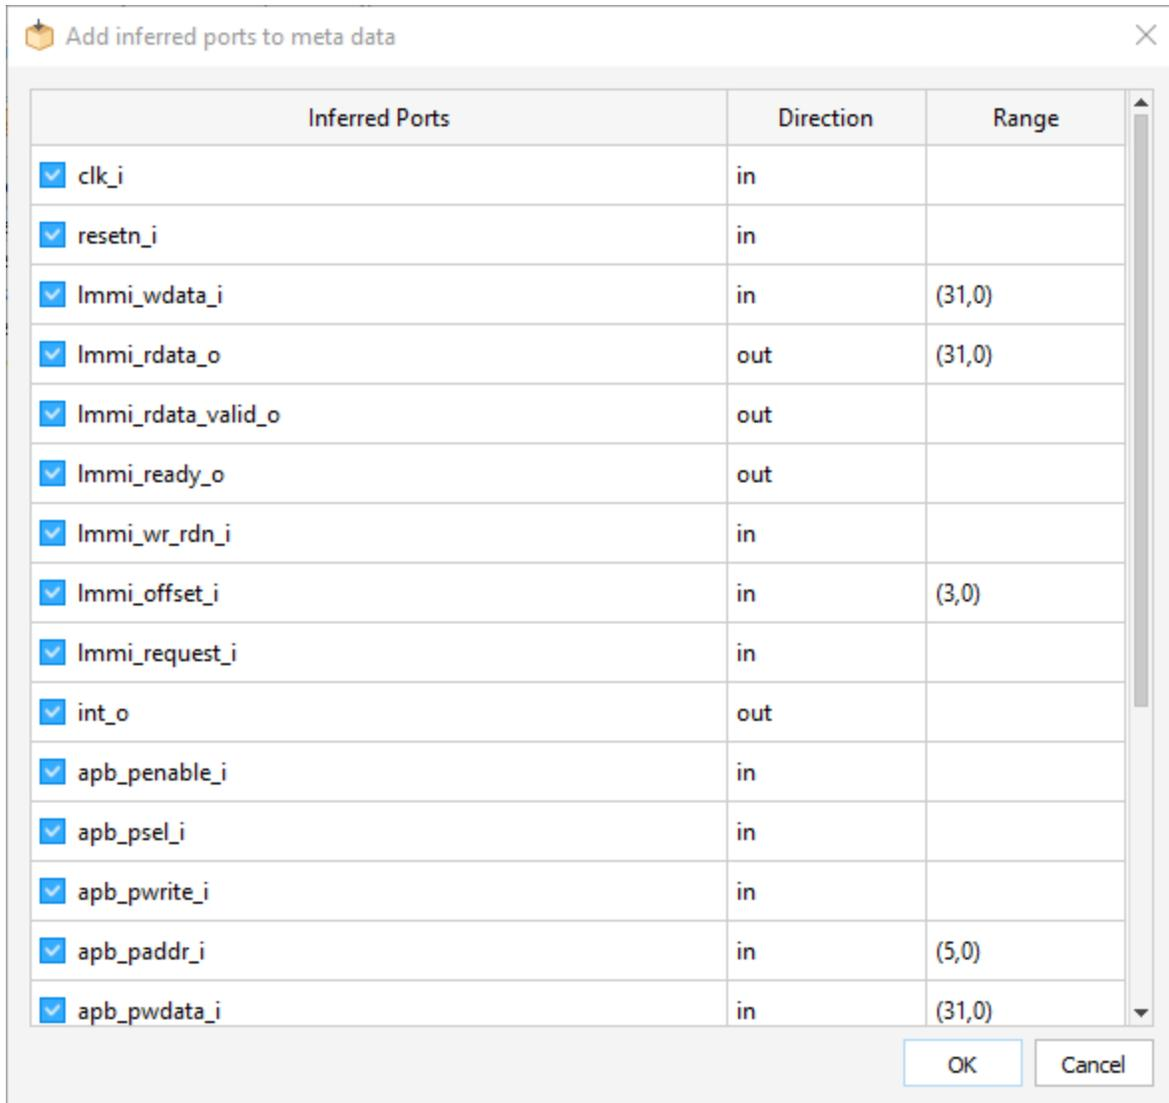

Figure 3.17. Add inferred ports to meta data Wizard
**Note:** You can add all ports by using **Infer Ports from HDL**, if you prepare valid RTL files and add RTL files in Design Files section. Click **Infer Ports from HDL**, the Add inferred ports to meta data wizard pops up (Figure 3.17). If you have added some ports and then choose **Infer Ports from HDL**, all the previously-added ports are removed and only ports from the HDL file can be added.